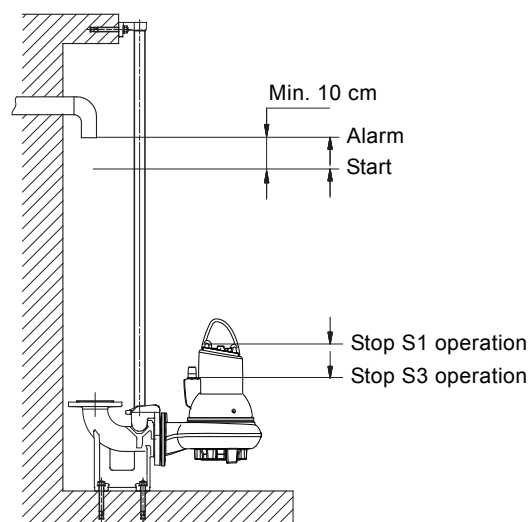

Fig. 14 Start and stop levels
11. Check that the liquid level is above the motor for S1 operation and above the cable entry for S3 operation. See fig. 14. If the minimum level is not reached do not start the pump.